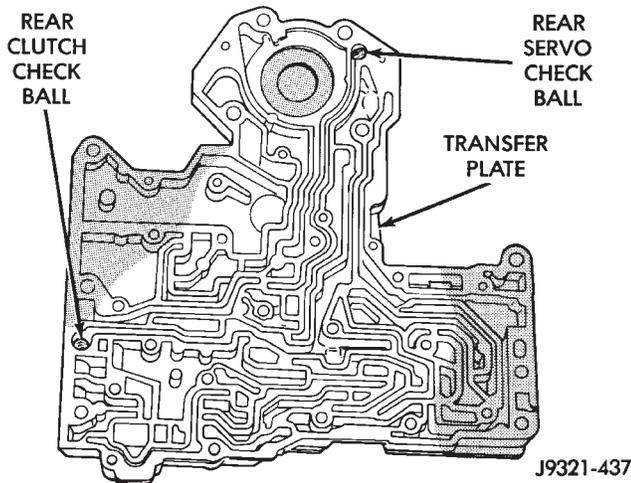

Fig. 88 Rear Clutch and Rear Servo Check Ball Locations
(35) Remove rear clutch and rear servo check balls from transfer plate. Note check ball location for assembly reference (Fig. 88).